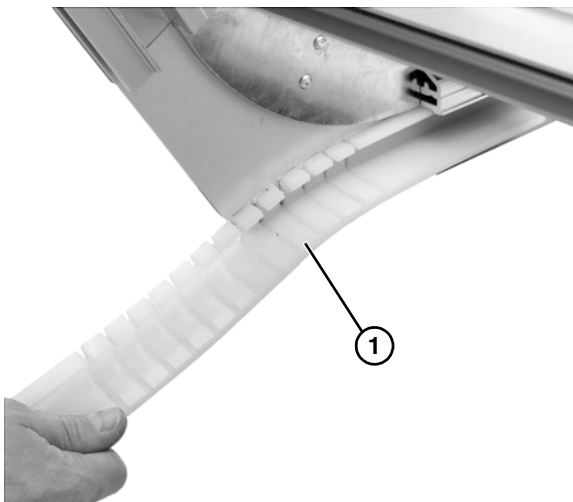

Figure 77
7. Remove belt return wearstrip (**Figure 77, item 1**). Repeat on opposite side.